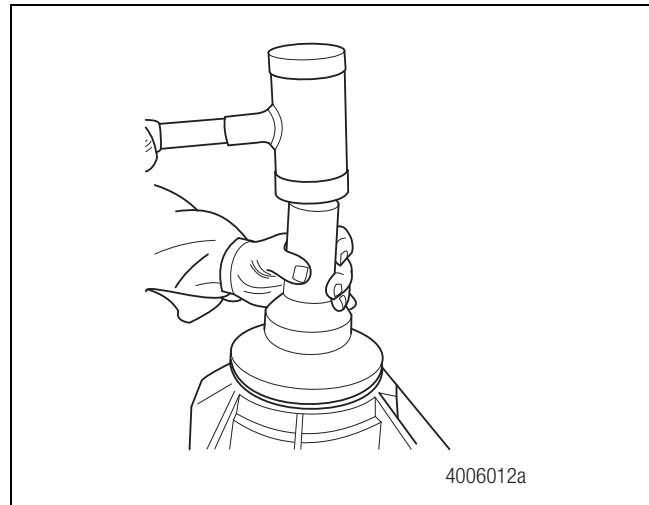

Figure 7.7
1. Use a seal driver and a mallet to install the seal into the bore in the carrier. Ensure the seal is fully seated in the bore. Figure 7.7.